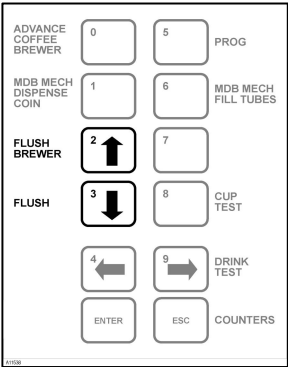

Figure 10b
2. Press **FLUSH** button. See Figure 10b. The Machine will flush all the **whipper and mixing bowls** with clean hot water.
3. Press the BREWER FLUSH button. See Figure 10b. The Machine will flush the brewer(s) with clean hot water.